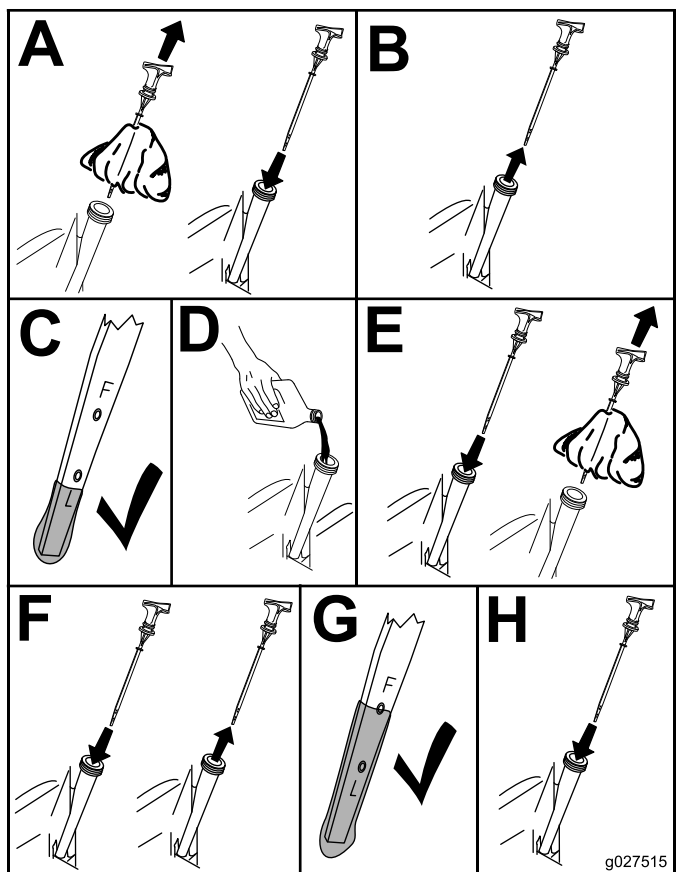

Figure 31
3. Check the engine-oil level (Figure 31).